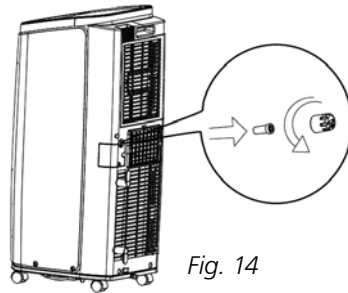

Fig. 14
- 1 Remove the condensation cover at the rear of the unit by turning it anti-clockwise and remove the rubber cap from the drain (see fig. 14).